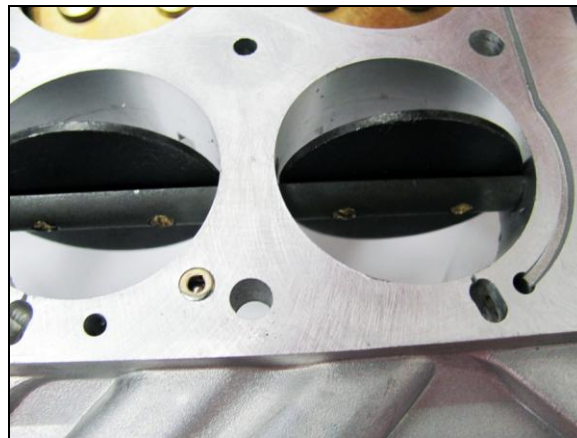

Figure 5
7. With the screws removed, **MARK** each plate, so that they will be placed back into each respective bore. After marking and removing the throttle plates, inspect the throttle shaft where the filing was done and check for any burrs. Dress with file, if any are present. It must be **COMPLETELY SMOOTH** (Figure 5). Once this is accomplished, you may then remove the duct tape. Afterwards, blow off the throttle body with compressed air to remove metal filings and chips.